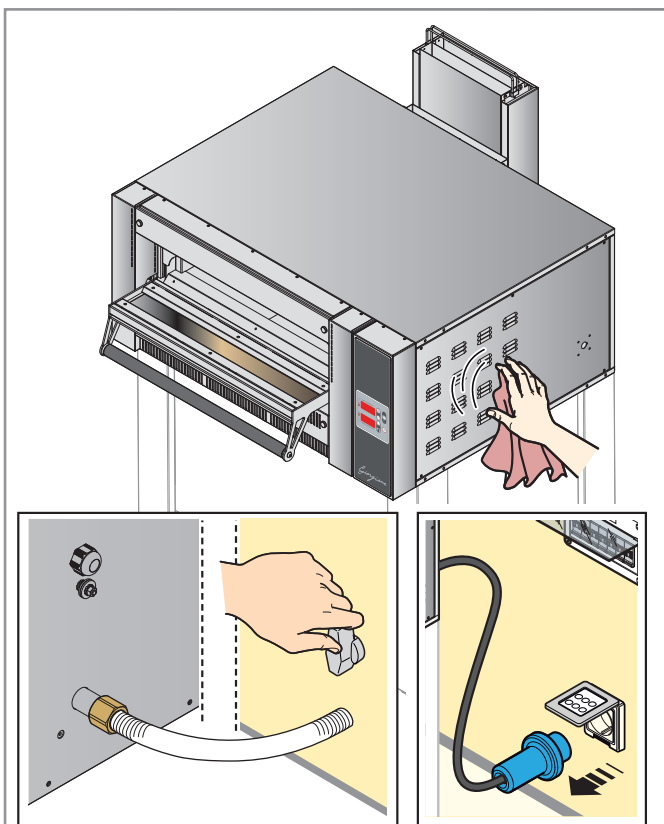

Fig. 18
► **Fig. 18** During any inactivity periods, disconnect the power supply and turn off the gas stop-cock. Protect the steel outside surfaces passing over them with a soft cloth slightly damp with Vaseline oil.